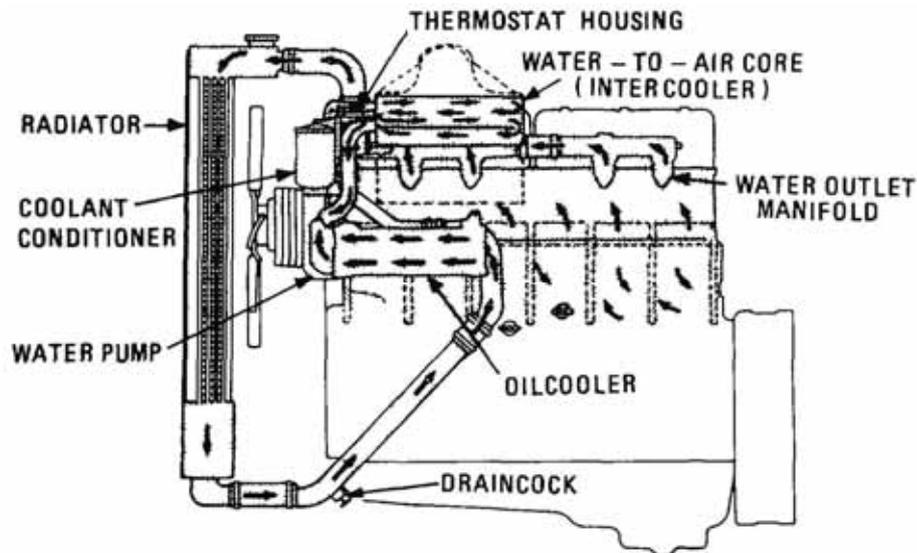

Figure 47 Coolant Flow Diagram
67. The radiator with top and bottom mounted storage tanks is mounted in front of the engine and acts as a heat exchanger for the cooling system. A pressure cap located in the top radiator tank seals the system and is designed to hold a pressure of 69 kPa (10 psi) within the system. Also located in the top tank is the water inlet, through which heated water from the engine flows into the radiator to be cooled. To circulate the water, a centrifugal pump is used. The pump is mounted on the front of the engine block and driven by twin V-belts from the crankshaft pulley. Attached to the water pump impeller shaft is a six-blade fan, which assists the cooling by drawing air through the radiator core cooling the water within the radiator, and also by circulating the air over the engine extremities. A thermostat, which regulates the flow of water through the system in order to maintain a stable operating temperature, is incorporated in the system, as is a coolant conditioner that helps prevent corrosion and rust build-up within the cooling system. A drain cock is fitted to the outlet pipe between the radiator bottom tank and the engine oil cooler (Figures 47 and 48).